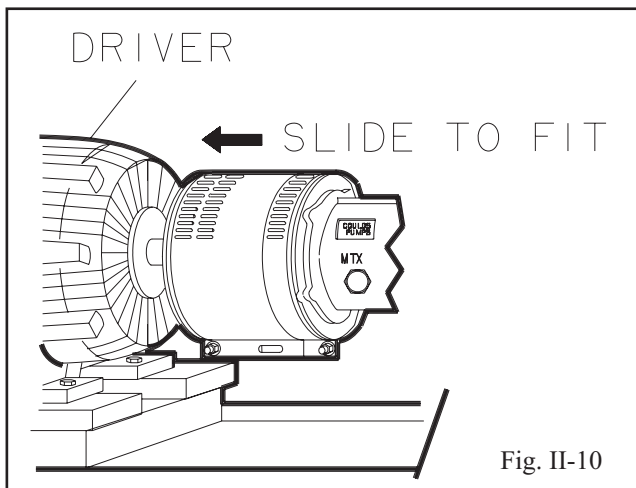

Fig. II-10
6. Adjust length of coupling guard to completely cover shafts and coupling as shown in Fig. II-10 by sliding coupling guard half (driver end) towards motor. After adjusting guard length, secure with bolt, nut and two (2) washers through the slotted holes at the center of the guard and tighten. Check all nuts on the guard assembly for tightness.
1. Remove nut, bolt, and washers from center slotted hole in the coupling guard. Slide motor end coupling guard half towards pump. Fig. II-10.